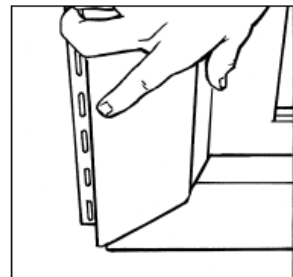

Figure 2
3. On the opposite end, measure back 3 1/2" on the inside or window side and make a mark. Using snips, cut a 45° angle from the outside corner to your mark. (figure 2.)